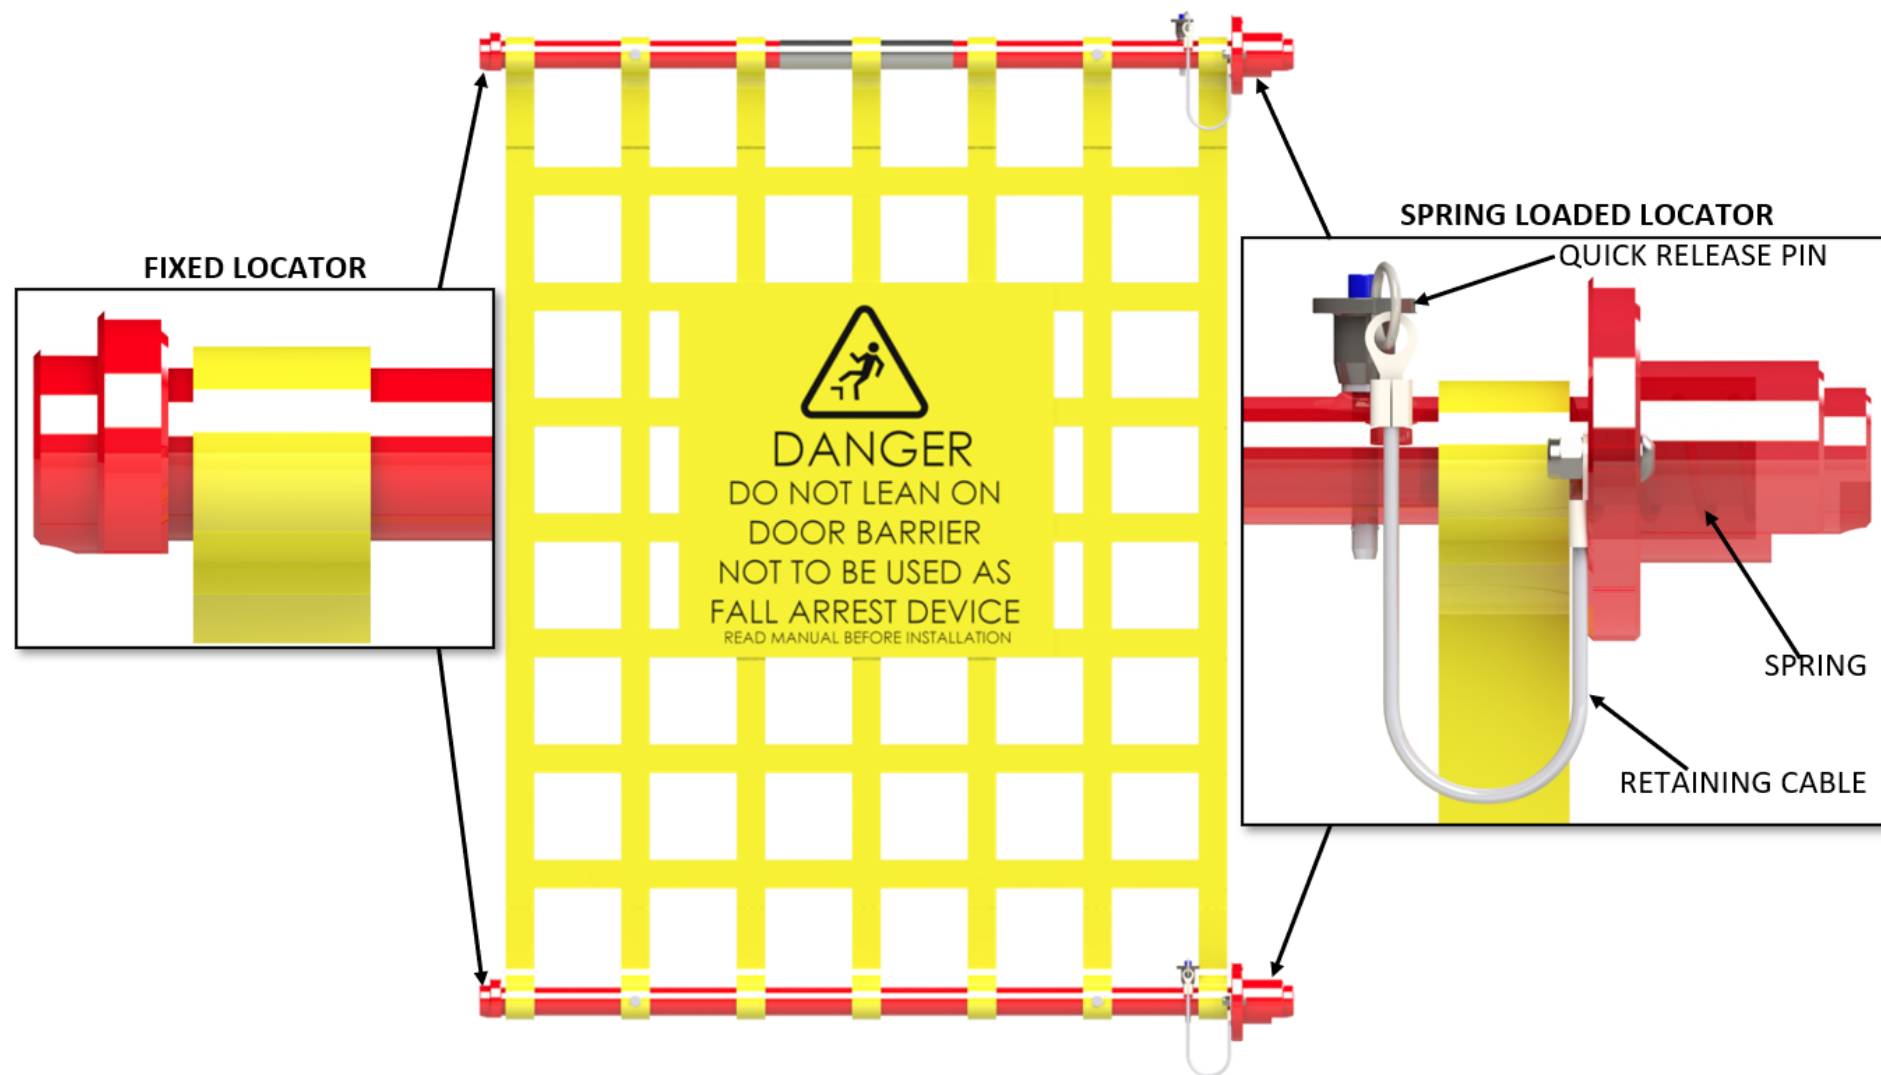

Figure 3. Part No. 240CA29 Aircraft Door Barrier Net
2.2.4 **Note:** Quick release Pins only on Part No. 240CA29 as shown in figure 3.
Note: This is for Part Numbers 239CA29, 241CA39, and 242CA39. See figure 3 for Part No. 240CA29 net with Quick Release Locking Pins.